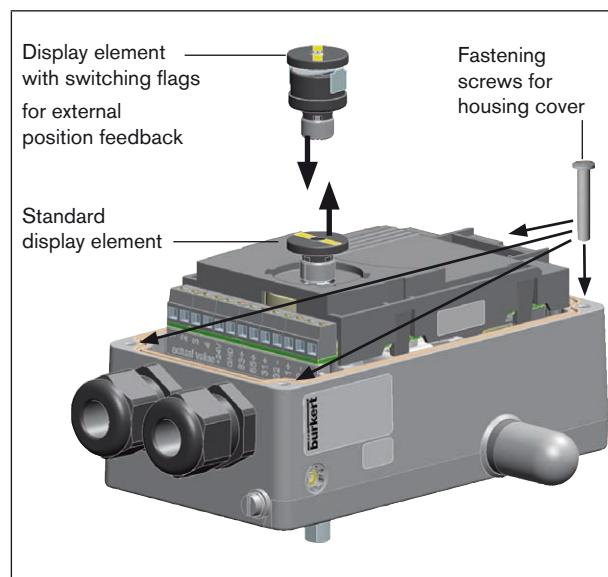

Fig. 1: Replacing display element
- Remove the standard display element from the spindle (see Fig. 1: ).
- Push the display element with switching flags for the external position feedback all the way onto the spindle (see Fig. 1: ).